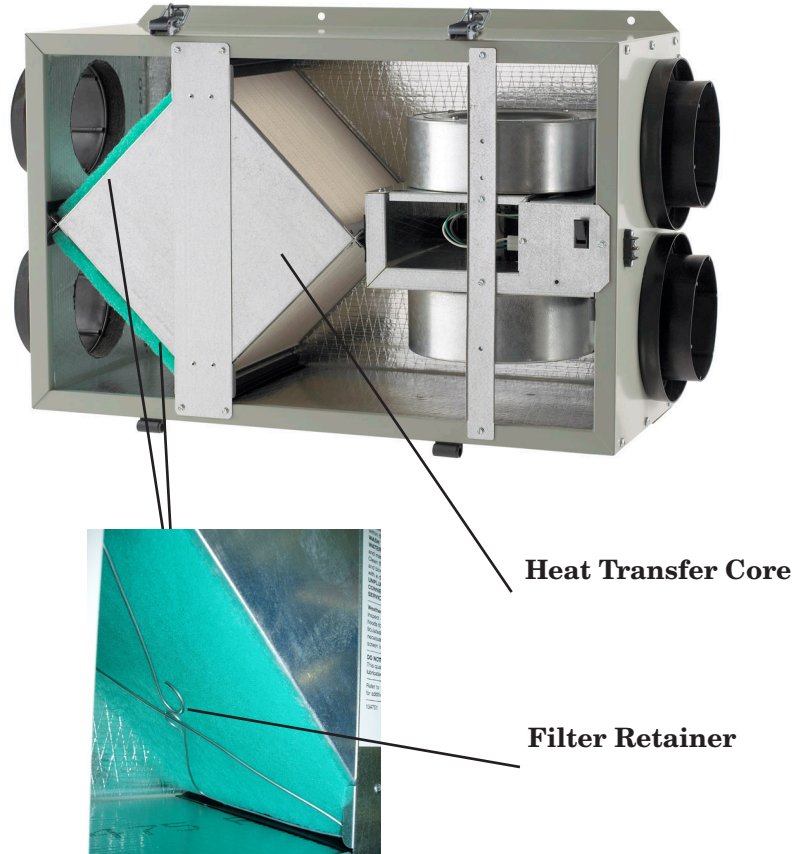

Figure 1
2. Remove the filter retainer springs. Pull the filters out. See Figure 1.